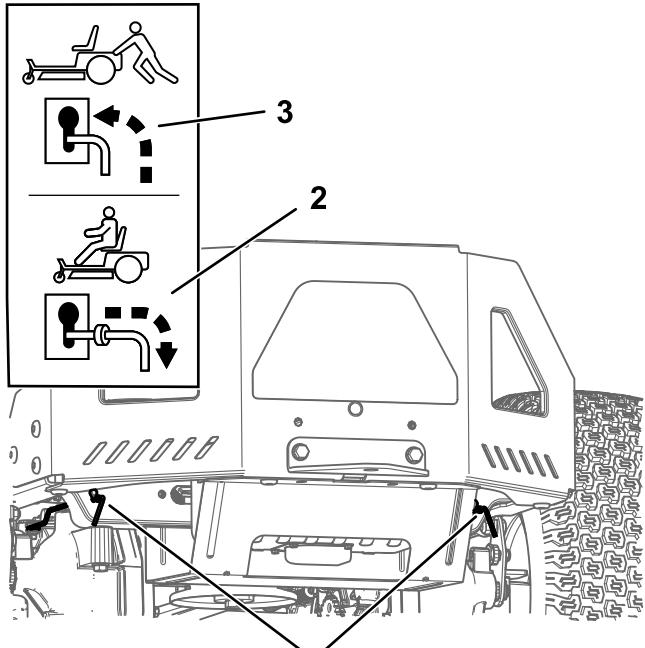

Figure 31
- Move both bypass levers forward through the slotted hole and down to lock them in place (Figure 31).